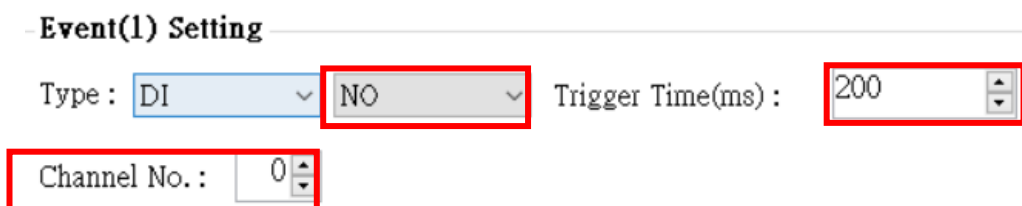

Figure 6.10.8
F. Select trigger condition as “NC”, Trigger Time “200ms” and Channel No. “0” as shown in Figure 6.10.8